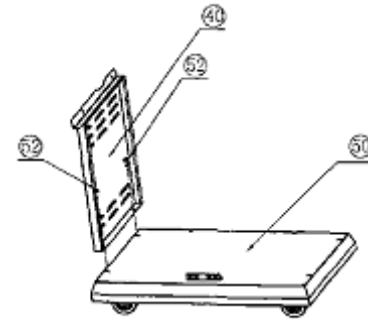

FIG1
1. Secure Left Plate (40) on the Platform (50) with 1/4-20* 1/2Bolt (52). As shown in FIG1.